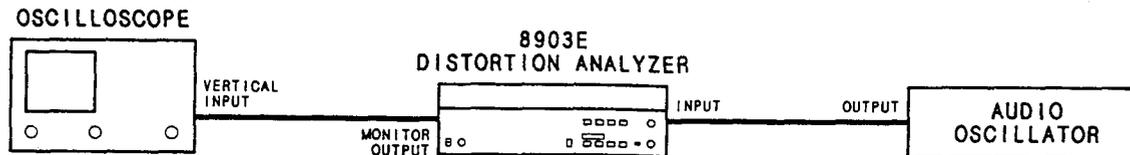

Figure 3-3. Basic Functional Checks Setup
3. Connect the audio oscillator output to the INPUT of the Distortion Analyzer with a BNC-to-BNC cable. Set the FLOAT switch to the ground position. See Figure 3-3.
4. Connect the oscilloscope to the MONITOR output. See Figure 3-3.